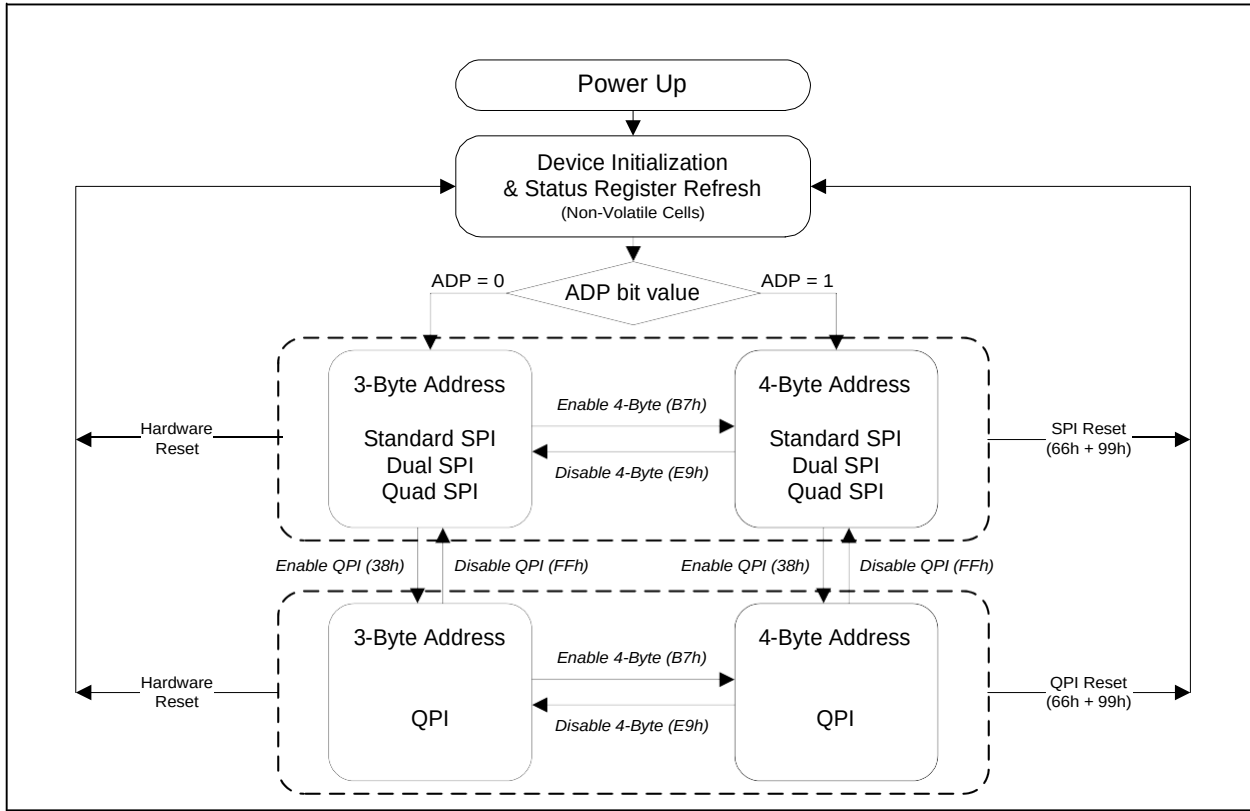

Figure 3. XM25RH512C Serial Flash Memory Operation Diagram
The XM25RH512C supports Quad Peripheral Interface (QPI) operations only when the device is switched from Standard/Dual/Quad SPI mode to QPI mode using the "Enter QPI (38h)" instruction. The typical SPI protocol requires that the byte-long instruction code being shifted into the device only via DI pin in eight serial clocks. The QPI mode utilizes all four IO pins to input the instruction code, thus only two serial clocks are required. This can significantly reduce the SPI instruction overhead and improve system performance in an XIP environment. Standard/Dual/Quad SPI mode and QPI mode are exclusive. Only one mode can be active at any given time. "Enter QPI (38h)" and "Exit QPI (FFh)" instructions are used to switch between these two modes. Upon power-up or after a software reset using "Reset (99h)" instruction, the default state of the device is Standard/Dual/Quad SPI mode. To enable QPI mode, the non-volatile Quad Enable bit (QE) in Status Register-2 is required to be set. When using QPI instructions, the DI and DO pins become bidirectional IO0 and IO1, and the /WP and /HOLD pins become IO2 and IO3 respectively. See Figure 3 for the device operation modes.